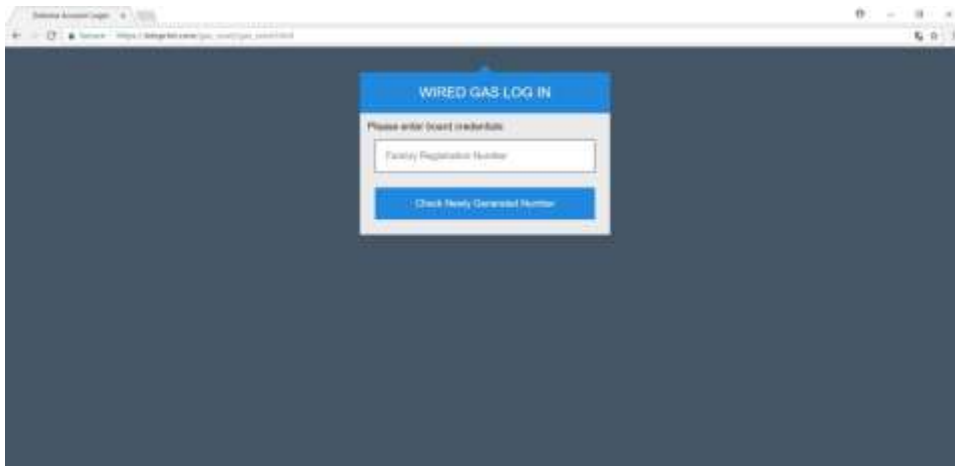

Fig 8.
9. NOW PRESSING ON THE GAS_TANK LINE WILL DISPLAY THE LIVE LOG SCREEN RELATED TO THE DOBOX BOARD THAT HAS BEEN SETUP (Fig.8). THE VOLUME IS DISPLAYED ON THE SCREEN TOGETHER WITH THE LAST TIME THE DOBOX BOARD CHECKED WITH THE SERVER. THIS INFORMATION IS IMPORTANT FOR THE USER TO KNOW IF THE DOBOX AND ITS INTERNET CONNECTION ARE WORKING PROPERLY WITHIN A CERTAIN TIME PERIOD. IF FOR INSTANCE THE SCREEN DISPLAYS AN UNUSUALLY LONG TIME, IT COULD BE AN INDICATION THAT THE DOBOX OR ITS INTERNET CONNECTION OR ROUTER ARE FACING ISSUES.
10. THIS SECTION REFERS TO GENERATING A UNIQUE BOARD NUMBER AS STATED IN SECTION 8 OF THIS DOCUMENT. THE BOARD JUMPER MUST BE PLACED BEFORE THE BOARD IS POWERED. THEN THE ETHERNET CABLE SHOULD BE CONNECTED TO AN INTERNET ENABLED ROUTER BEFORE POWERING UP THE BOARD. THE USER HAS TO WAIT FOR A MINUTE FOR THE BOARD TO CONNECT TO THE SERVER FOR THE FIRST TIME. FROM A BROWSER, THE USER THEN CONNECTS TO (Fig. 8):